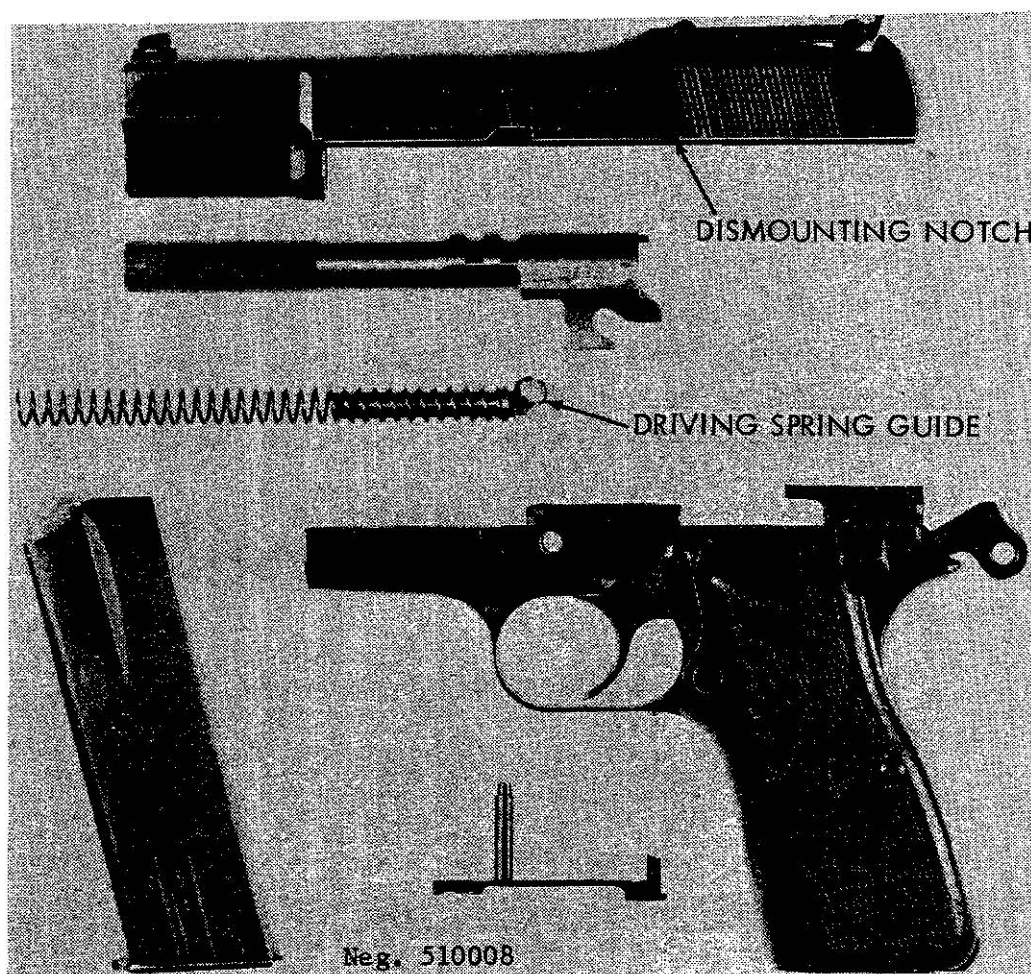

Figure 9. High Power pistol, disassembled.
(1) Clear the weapon (para 9g), but do not insert the magazine.
(2) Retract the slide until the safety can be pressed up into the dismounting notch (fig 9). Press the rear of the slide stop up, and then press in on the right end of the slide stop pin to start the slide stop out of the receiver. Pull the slide stop fully out.
(3) Hold the slide, and press the safety down. Ease the slide forward, and pull it from the receiver.
(4) Grasp the driving spring guide (fig 9) and pull it forward (out of its seat in the barrel); then ease the guide and spring up and out of the slide.
(5) Pull the rear end of the barrel out of the slide; then pull the barrel rearward until it is free.
(1) Insert the muzzle end of the barrel into the slide; press the rear end of the barrel into the slide and move the barrel rearward until its locking ribs snap into place in the slide. Insert the free end of the driving spring into its tunnel in the front of the slide; then mate the driving spring guide to the barrel. Note: The hole in the guide must be positioned so that it is toward the barrel; refer to figure 9 for correct positioning.
(2) Start the slide onto the rails of the receiver (from the front) and pull the slide rearward until the safety can be pressed into the dismounting notch. Insert the slide stop pin (from left to right) into its hole and fully seat it. Disengage the safety from the slide and insert the magazine. Pull the trigger.